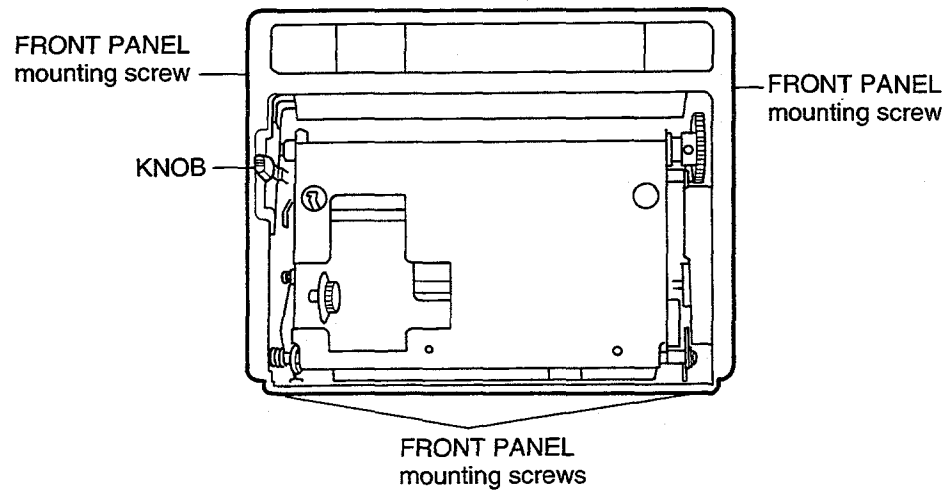

Fig. 1-5
5. Remove 4 screws securing the FRONT PANEL. (Fig.1-5)
6. Remove the KNOB. (Fig.1-5)